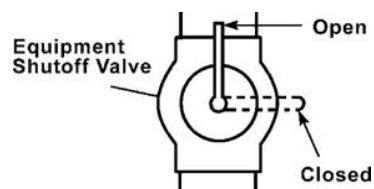

Figure 15 – Equipment Valve
1. Open equipment shutoff valve (see Figure 15).
1. Close equipment shutoff valve (see Figure 15, page 13).